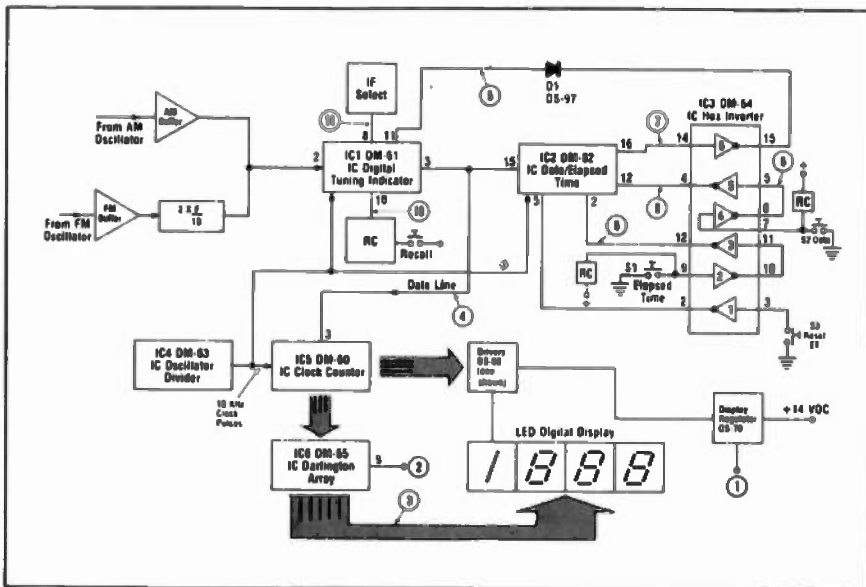

Fig. 3—Block diagram of the digital subassembly.
A block diagram of the digital portion of the radio is shown in Fig. 3. As you can see, the heart of the digital subassembly is a set of special CMOS IC modules. These include: the DM-61 *digital tuning indicator* (ICDTI), DM-62 *date-elapsd time* (ICDET), DM-63 *oscillator-divider* (ICOD), DM-60 *clock counter* (ICC), and the DM-65 *Darlington array* (ICDA). In addition, several special transistors are used, including the DS-513, used as a voltage regulator, and the DS-60 Darlington transistors used as display switches.
1. A high input (1) gives a low (0) output.
2. A low input (0) gives a high output (1).
DM-64 in Fig. 3, is a hex inverter with six (hex) independent inverter circuits that control the Date and Elapsed Time IC, DM-62, by making certain pins either high or low. For example, switch S3, when depressed, grounds the input of hex inverter (HI) No. 1. This causes the output of HI No. 1 to go high for an instant and resets the elapsed time counter (DM-62).
A total of eleven Darlington transistors are used as switches to control the four LED readouts. Seven of these Darlington transistors, operating as segment drivers, are located inside the Darlington Array (DM-65). The other four are type DS-60 display drivers, used to sequentially supply +14 VDC to the LED readouts. These four are mounted outside DM-65. (See Fig. 3).